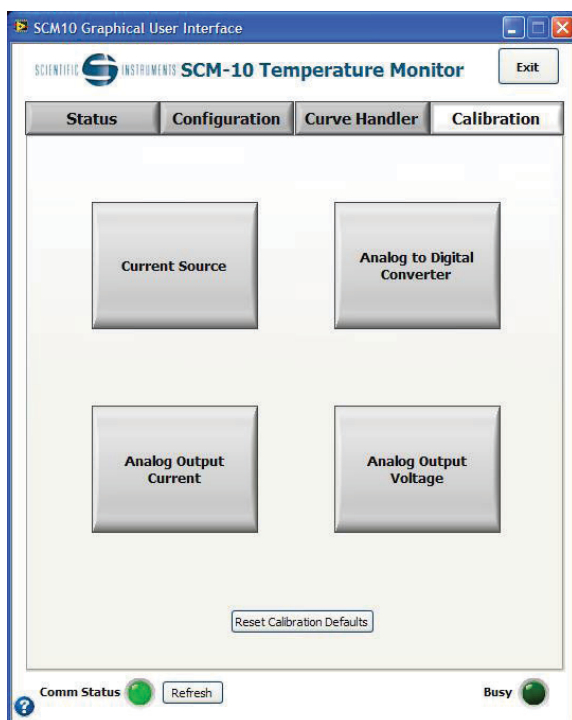

Figure 6.1
4. Click the “Calibration” tab on the GUI. This opens up a window like shown in Figure 6.1.